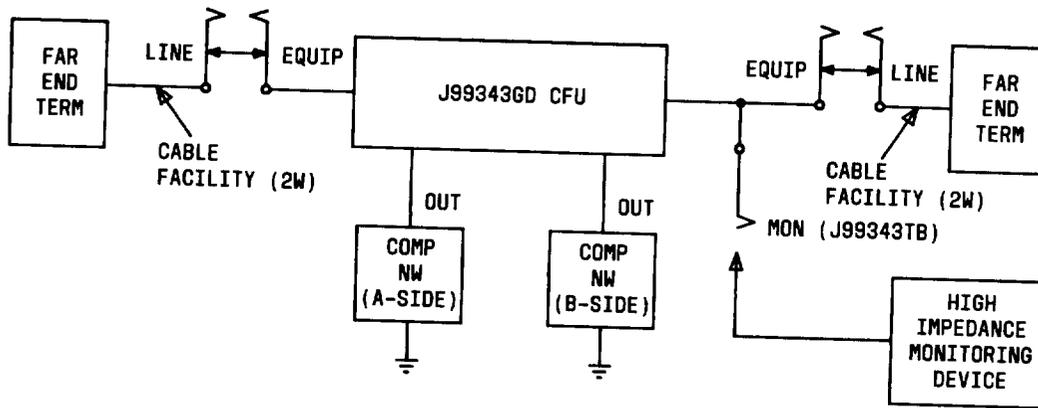

Fig. 5—Typical In Circuit Configuration for Stability Margin Tests
9.05 It is assumed that the J99343GD CFU has been adjusted to its final settings and all options are set as specified on the CLR. Idle state stability test procedures are given in Chart 6 and an example test setup is shown in Fig. 5.
- 5 Connect the high impedance monitoring device to the monitor jack (MON) on the B-side of the J99343TB test extender. (See Fig. 5.)
Note: With the monitoring device connected as shown in Fig. 5, no sound other than battery noise should be audible.